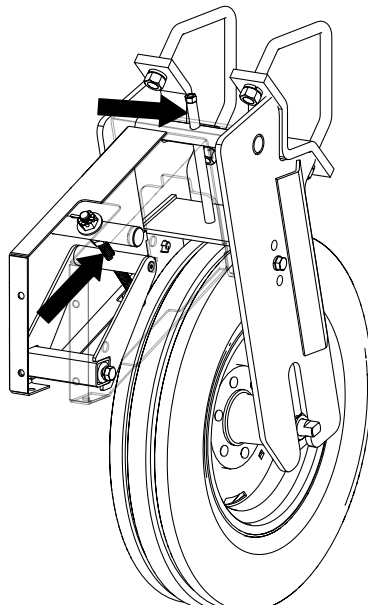

Figure 26 King Guide Screw Jacks
2. Lubricate the screw jacks in King Guides, or 3130 gangs (Figure 26)